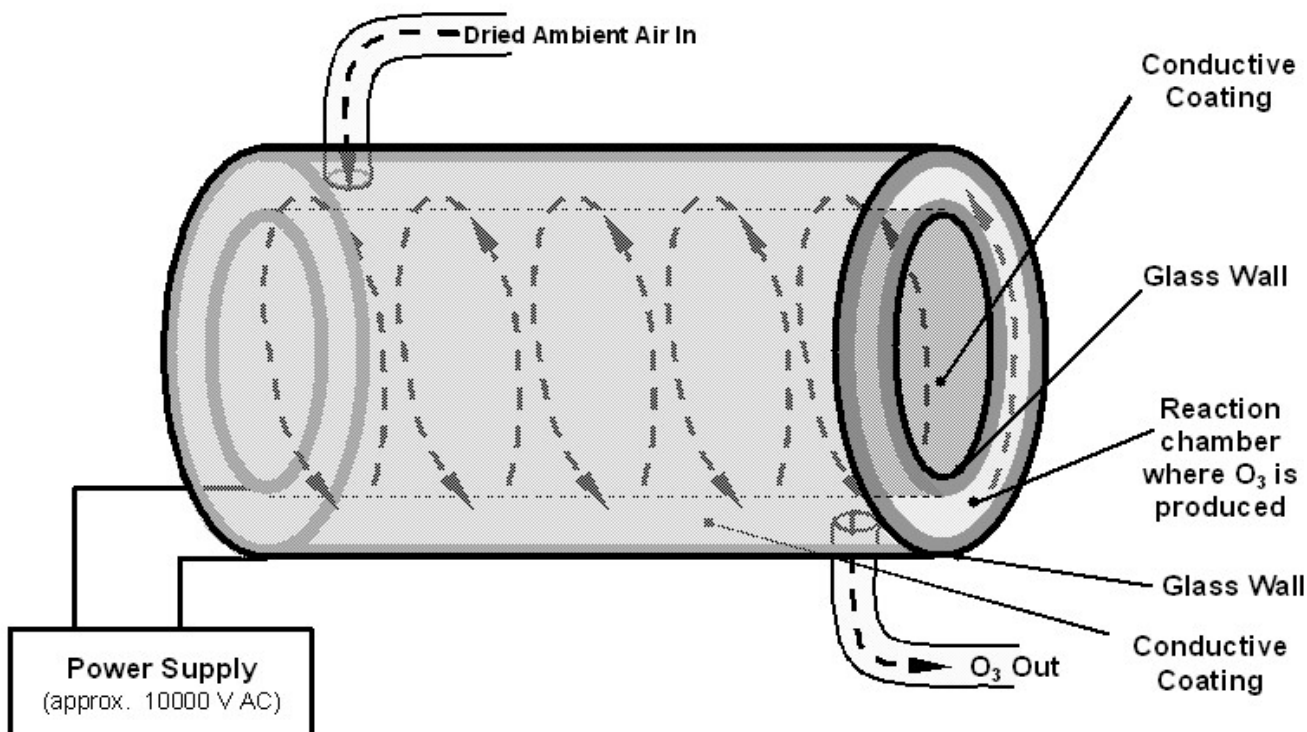

Figure 8-9: Ozone Generator Principle
The 9110TH/M uses a corona discharge (CD) tube for creating its O₃. Corona discharge generation is capable of producing high concentrations of ozone efficiently and with low excess heat. Although there are many cell designs, the fundamental principle remains the same (Figure 8-9).